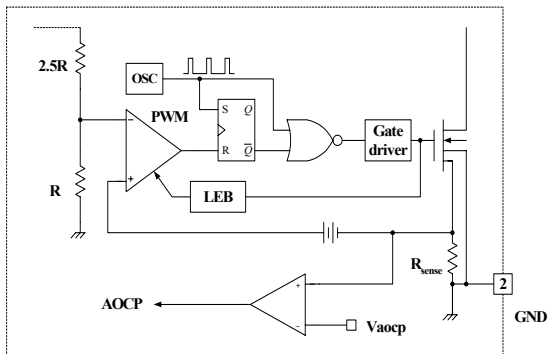

Figure 9. AOCP block
3.2 Abnormal Over Current Protection (AOCP) : When the secondary rectifier diodes or the transformer pins are shorted, a steep current with extremely high di/dt can flow through the SenseFET during the LEB time. Even though the FS7M-series has OLP (Over Load Protection), it is not enough to protect the FPS in that abnormal case, since sever current stress will be imposed on the SenseFET until OLP triggers. The FS7M-series has an internal AOCP (Abnormal Over Current Protection) circuit as shown in Figure 9. When the gate turn-on signal is applied to the power Sense FET, the AOCP block is enabled and monitors the current through the sensing resistor. The voltage across the resistor is then